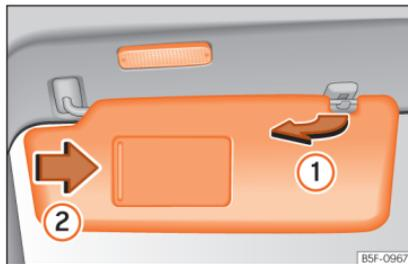

Fig. 116 Sun visor
- The sun visor can be pulled out of its mounting and turned towards the door »» **Fig. 116 ①**.